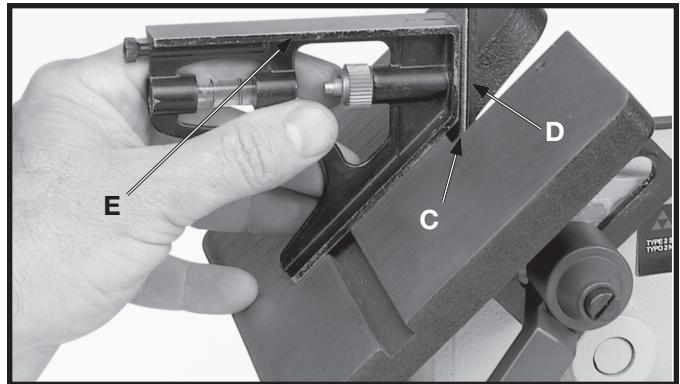

Fig. 27
The table can be tilted 45 degrees to the front, as shown in Fig. 27, by loosening lock lever (B). Use a combination square (E) check to set the table at 45 degrees to the belt and tighten lock lever (B).
**WARNING** To avoid trapping the work or fingers between the table and sanding belt, the table edge (C) should be positioned a maximum of 1/16 inch from sanding belt (D) when the table is tilted.